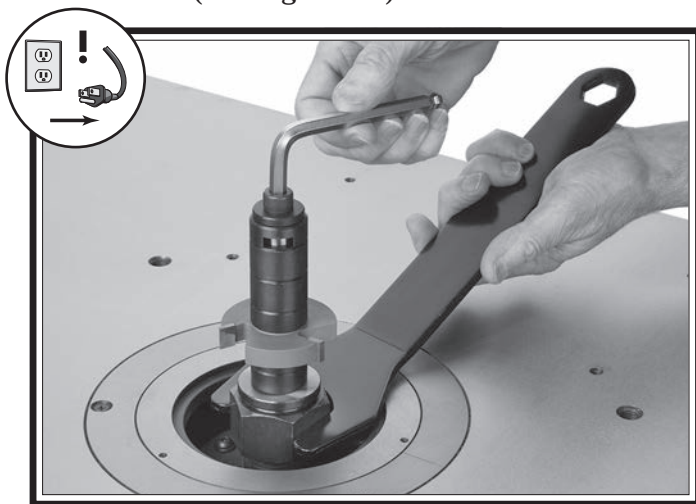

Figure 37. Tightening spindle cap screw.
7. Tighten cap screw with hex wrench while holding spindle stationary with spindle wrench (see **Figure 37**).